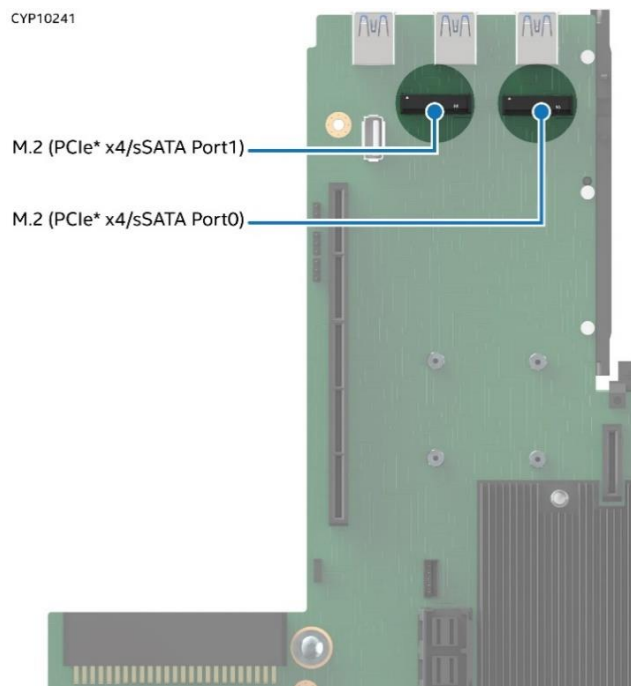

Figure 49. M.2 SSD Connector Location
4. Locate the M.2 port 0 connector towards the back of the board. Refer to Figure 49 for the location.
4. Locate the M.2 port 0 SSD. Refer to Figure 49 for the location.